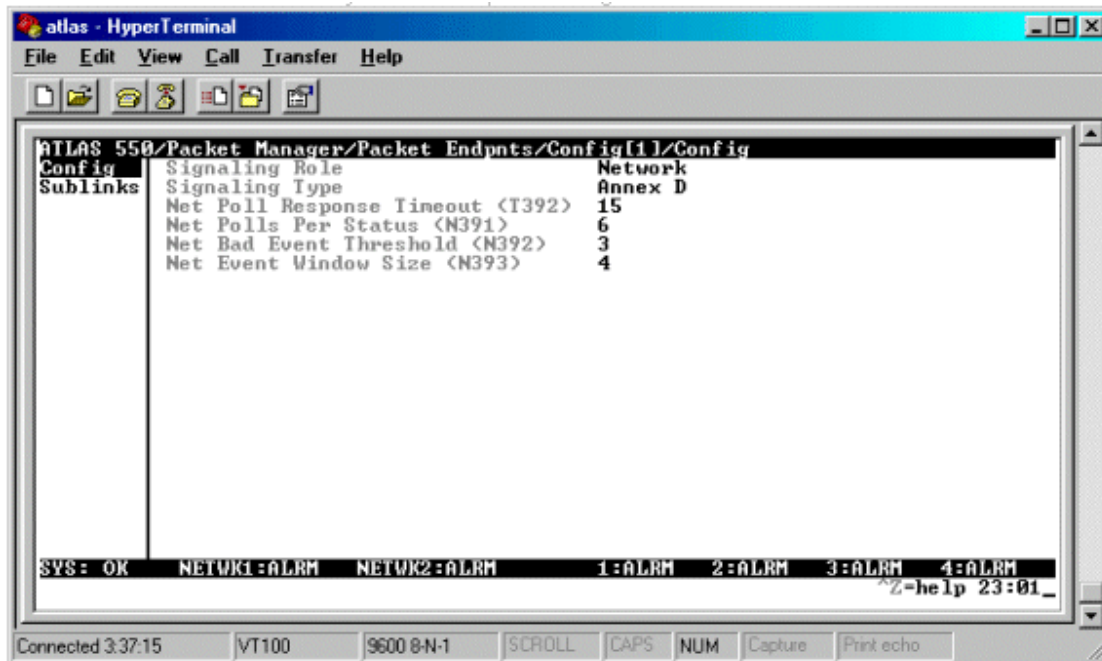

Figure 4
7. Select the proper **Signaling Type**. For this example, we will use **Annex D**, but any option may be used as long as both ATLAS units are set the same. This sets the frame relay signaling type for this endpoint only and is independent of other interfaces on the ATLAS. See **Figure 4**.